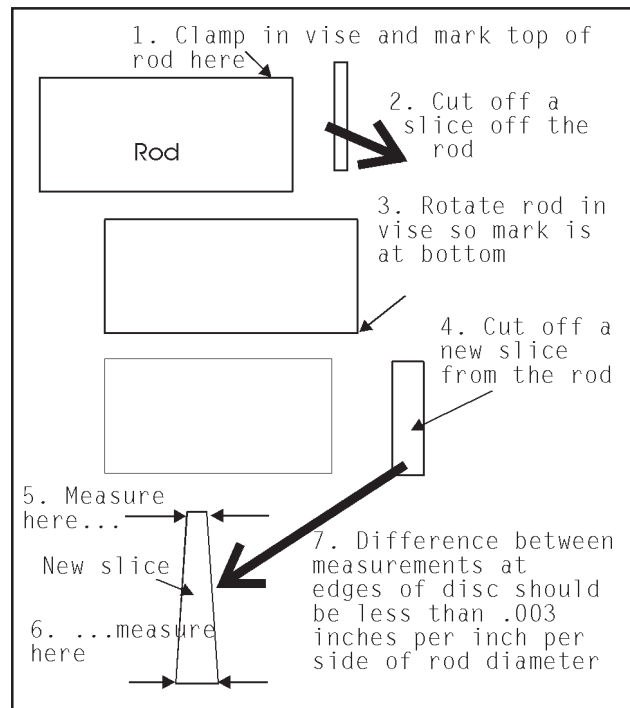

Figure 15: Step-by-step method to produce a test disc which can be measured for "wedge" - a measurement for testing cutting accuracy.
1. With the bar stock securely clamped in the vise, make a cut through the bar stock. (See *Figure 15*.)